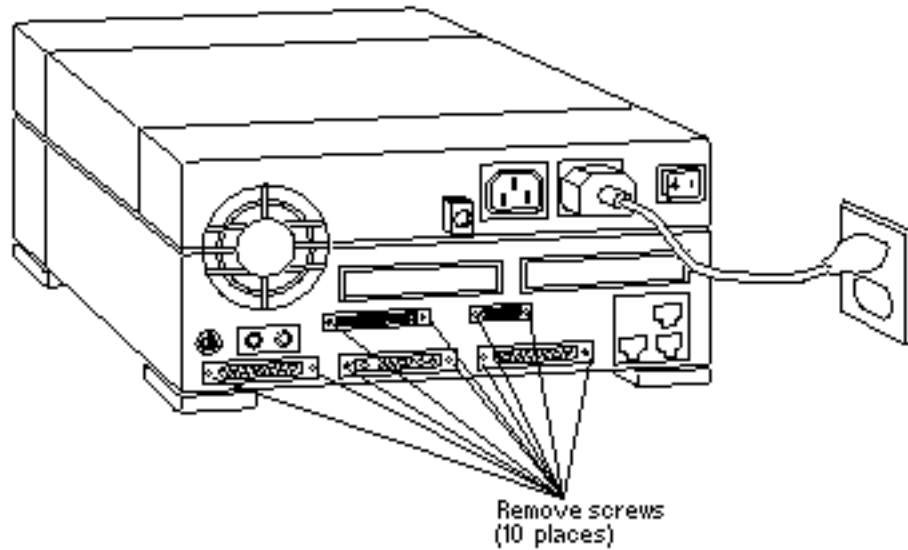

Figure 8-7 Removing the System I/O Board
2. Use a small flat-blade screwdriver to remove the 10 screws that secure the system I/O board to the system unit chassis (see Figure 8-7). Take care to remember where each screw belongs.
- b. **Align the screw holes in the chassis with the holes in the system I/O board and secure the board with the 10 screws provided (see Figure 8-7). (Replace the plastic connector covers, if necessary.)**